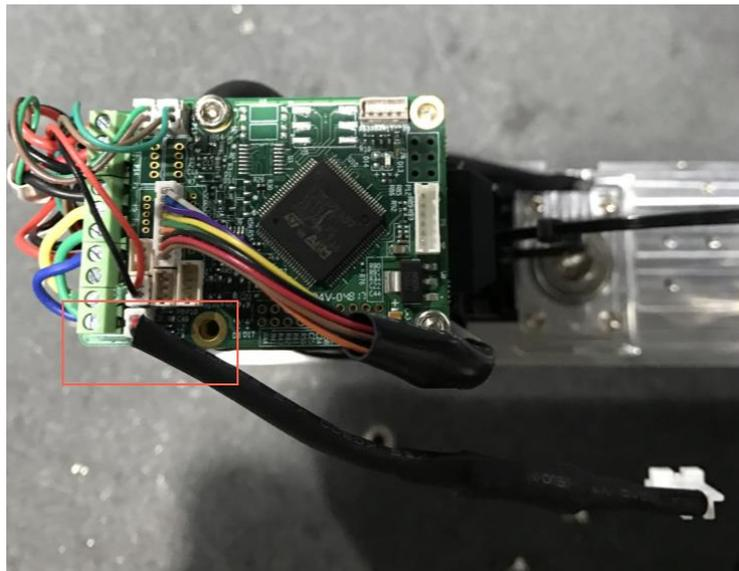

Figure 7.10 Connect the battery adapt to the battery interface
- Step 5** Connect one end of the battery adapter cable to the battery interface on the Driver Board, as shown in Figure 7.10. If it has been connected, please skip this step.